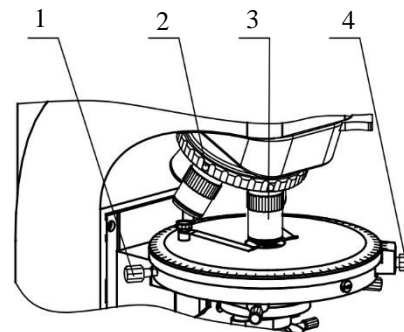

Figure 5
4. Rotatable Stage Controls, see Figure 5